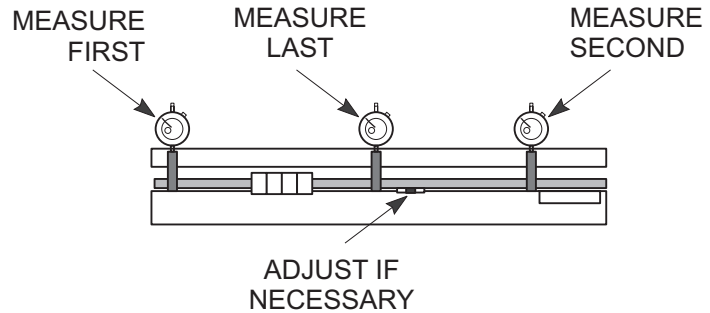

Figure 3-11. Measurement Positions for Slide Shaft.
2. Place gauge against left side of shaft assembly allowing micrometer tip to rest directly on top of shaft. See Figure 3-11.